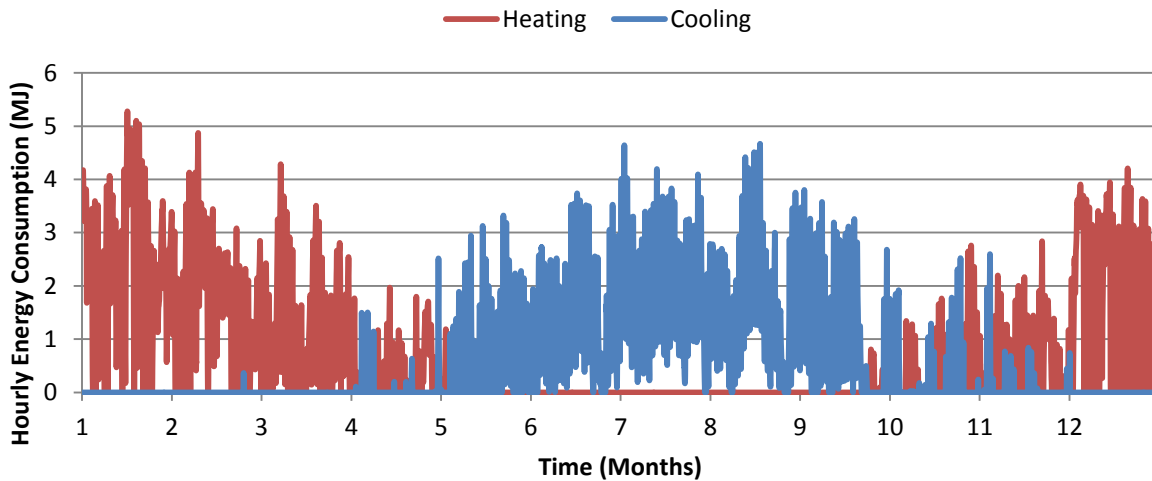

Figure 36 - Hourly energy consumption (MJ)
- Figures 36 and 37 show that heating and cooling energy consumptions are 56.4% and 43.6% of the total energy consumption, respectively.